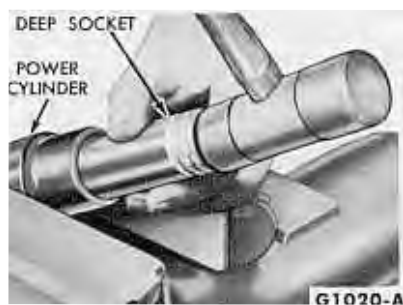

FIG. 20—Installing Power Cylinder Seals
2. Push the rod in all the way, and install the parts in the cylinder with a deep socket slightly smaller than the cylinder opening (Fig. 20).